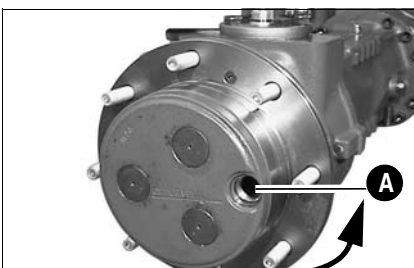

Fig. 34: Oil filler and inspection plug on planetary drive
- Place opening A in the position shown in fig. 34 (plug must be in horizontal position)